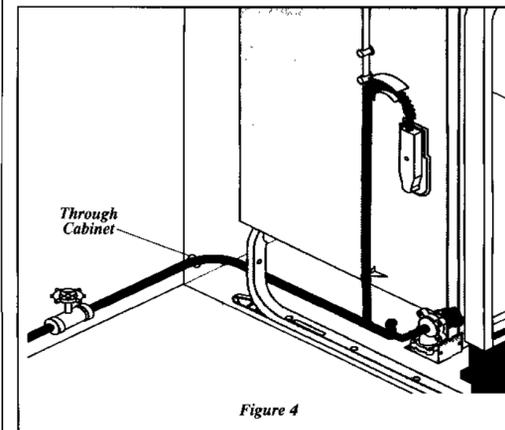

Figure 4
3. Determine amount of tubing needed to connect hot water supply to the unit's water inlet valve. Copper tubing must have a minimum  $\frac{3}{8}$ " OD. High-pressure and high-temperature rated plastic tubing with a minimum inner diameter of  $\frac{1}{4}$ " may be used. A shut-off valve installed outside dishwasher cabinet is best. See Figure 4.